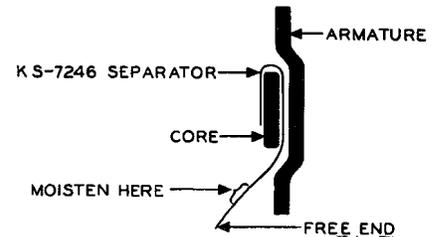

Fig. 12 - Method of Applying KS-7246 Separator
- (1) Before applying the separator, clean the armature and core as covered in 3.01. Check the armature travel, contact separation, and contact follow, and if necessary, readjust as covered in 3.11, 3.16, and 3.17, making any necessary corrections allowing approximately 0.002 inch for the thickness of the paper. This should minimize the adjustment outlined in (8).
- (2) Withdraw a strip of KS-7246 separator from the container and tear off a length that can be conveniently handled (approximately 3 or 4 inches).
- (3) Thread the separator between the armature and core with the gummed side toward the core until one end projects either at the top or bottom as convenient, for approximately 1-1/2 inch beyond the core. Moisten the projecting length of separator at the end for a distance of about 3/8 inch with the finger or with the KS-6320 orange stick dipped in water. Exercise care to thoroughly moisten the end of the strip but to avoid excessive moisture.
- (4) Pull the dry end of the separator strip until only the 3/8-inch moistened end projects beyond the core. Position the strip so that it is about 1/16 inch away from the spoolhead of the relay, and then press the 3/8-inch moistened end of the strip firmly against the side of the core away from the armature with the finger or the eraser. Hold it in this position and pull on the free end of the strip in a manner that will cause it to lie smoothly and tightly against the side of the core adjacent to the armature (see Fig. 12). Best results are obtained if the end of the paper that is stuck to the pole piece is allowed to dry for at least 3 to 5 minutes before fastening to the other end. ↵
- (5) When pulling on the paper always exercise extreme care not to pull with sufficient tension to tear the paper. Replace separators if the portion between the armature and core is torn, dirty, or damaged in any way. ↵
- (6) Continue the pull on the separator, press the armature against the core, and hold it in this position either manually or with the No. 136B tool. Then release the pull on the separator.
- (7) Moisten the free end of the separator strip for a short distance adjacent to the pole piece as indicated in Fig. 12 and wrap it evenly around the edge and over the pole piece in such a way as to overlap by at least 1/4 inch the 3/8 inch previously stuck. Cut off the excess paper. Remove the No. 136B relay blocking tool, if used.
- (8) Check for contact separation and contact follow, and if necessary, readjust as covered in 3.16 and 3.17. Check the electrical requirements, and if necessary, readjust the relay. ↵